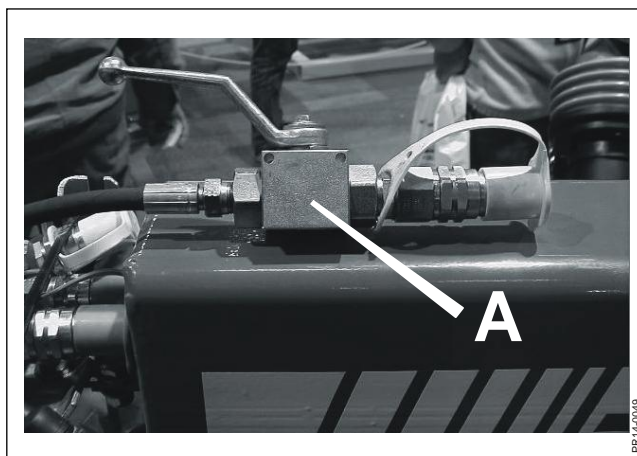

Fig. 2-7
**Fig. 2-7 BEFORE TRANSPORT CLOSE THE BALL VALVES** that are placed by the quick-release couplings of the tractor. The valve is shown in open position and is turned off when the handle is turned 90 degrees. This must be done in case of unintended use of the hydraulic outlet during transport to prevent the machine from swinging into working position during transport. If the power steering cylinder is mounted, the ball valve for this cylinder must also be closed.